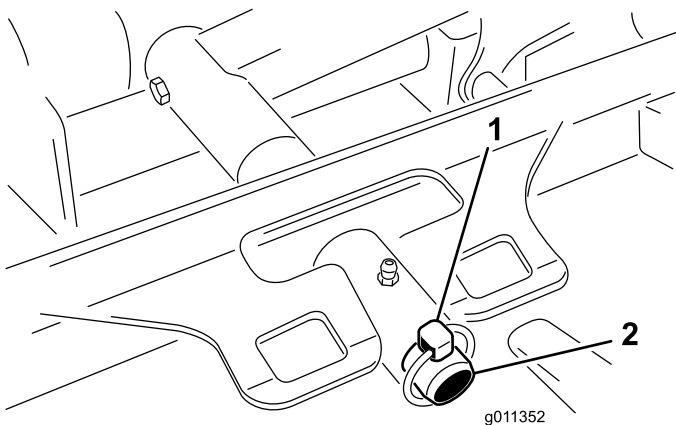

Figure 119
3. Remove the lynch pin (for Groundsmaster 4500 machines) or retaining nut (for Groundsmaster 4700 machines) securing the cutting unit-carrier frame to the lift-arm pivot pin (Figure 119).
2. Slide the cutting unit-carrier frame onto the lift-arm-pivot pin (Figure 119). Secure the cutting unit to the pin with the lynch pin (for Groundsmaster 4500 machines) or retaining nut (for Groundsmaster 4700 machines).